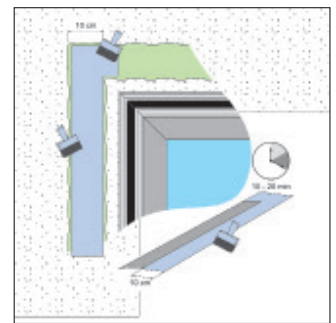

Fig 2: Application of CT113 Contact Adhesive
- Bonding onto porous materials (also non-porous materials resistant to the adhesive solvent) is best achieved using CT113 Adhesive which is applied by brush or roller in an even layer to BOTH bonded surfaces (see Fig. 2).